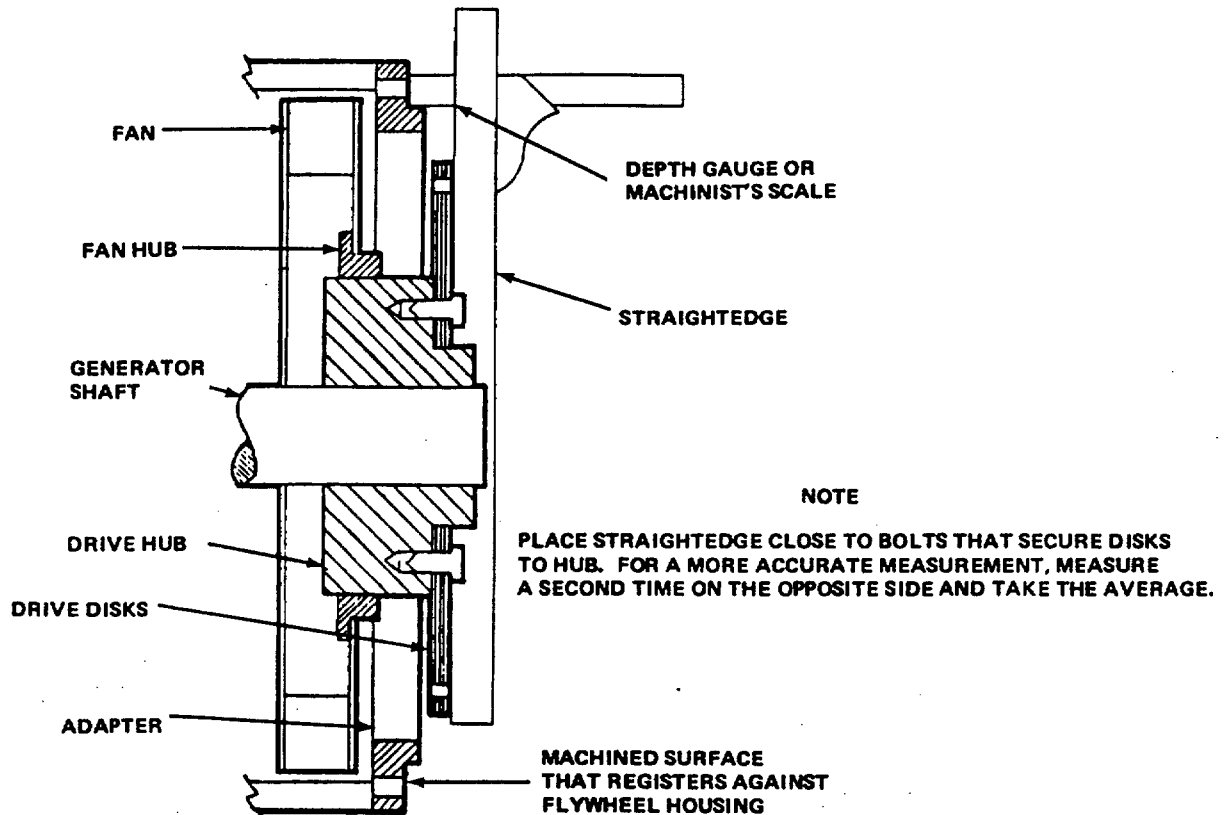
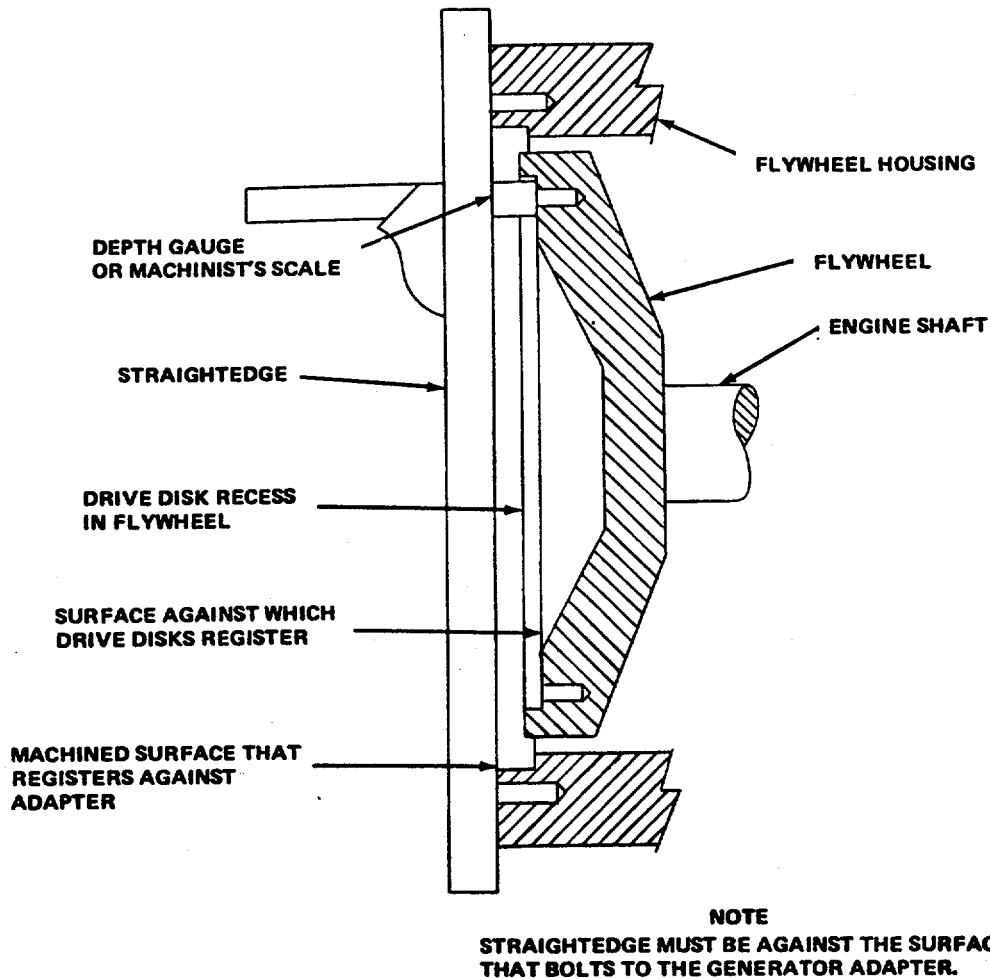

Figure 11-9. Obtaining Dimension Y
Figure 11-10. Obtaining Dimension C
- (e) Measure the distance from the surface on the generator adapter that bolts to the engine flywheel housing to the outside surface on the drive discs (Dimension "Y", figure 11-9). Then measure the distance from the machined surface on the engine flywheel (Dimension "C", figure 11-10). If the distance from the bellhousing to drive disc recess "C" is more than the distance from the generator adapter to the drive discs "Y", install additional spacers between the drive discs and the generator drive hubs. If "Y" is more than "C", remove spacers located between the drive discs and generator hub.